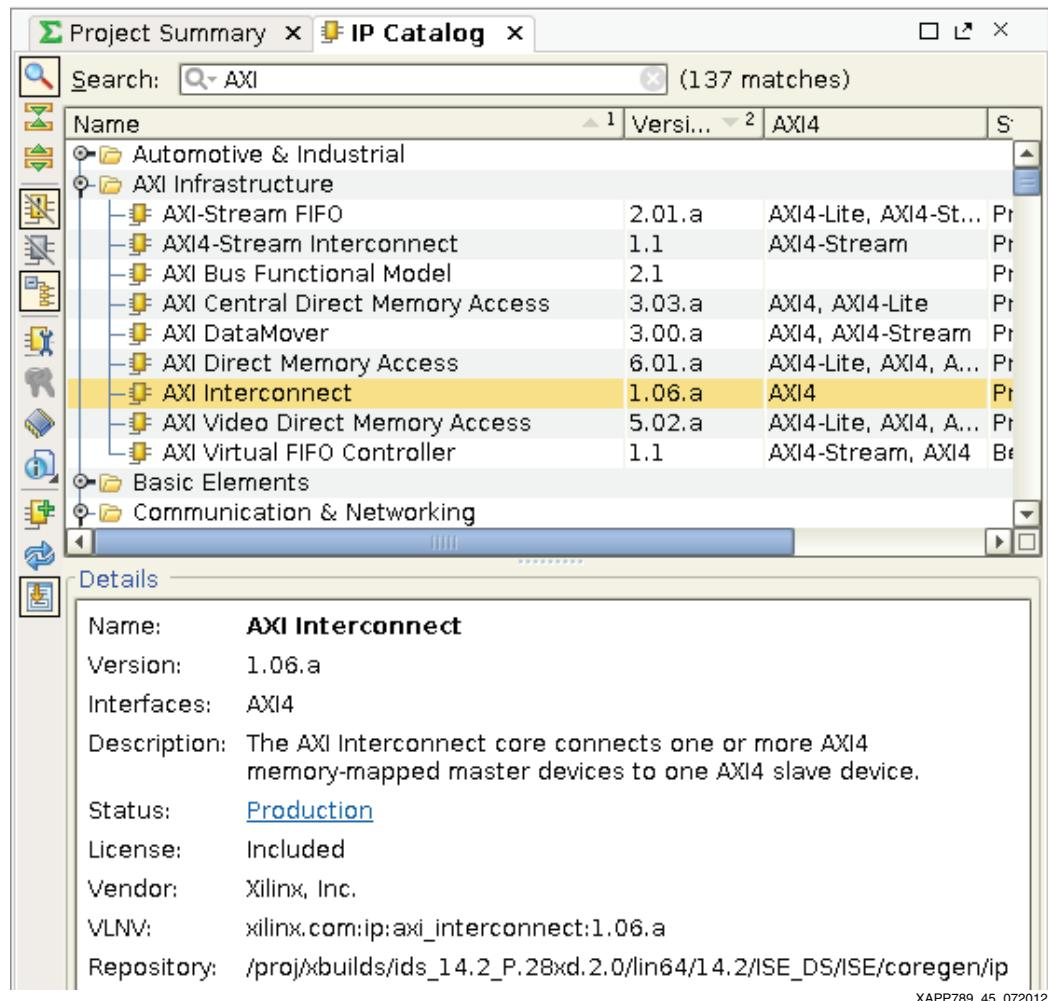

Figure 45: Open IP Catalog
34. Find the AXI Interconnect IP in the AXI Infrastructure IP directory or type the name in the Search bar. Double click the IP name to configure this IP (Figure 45).